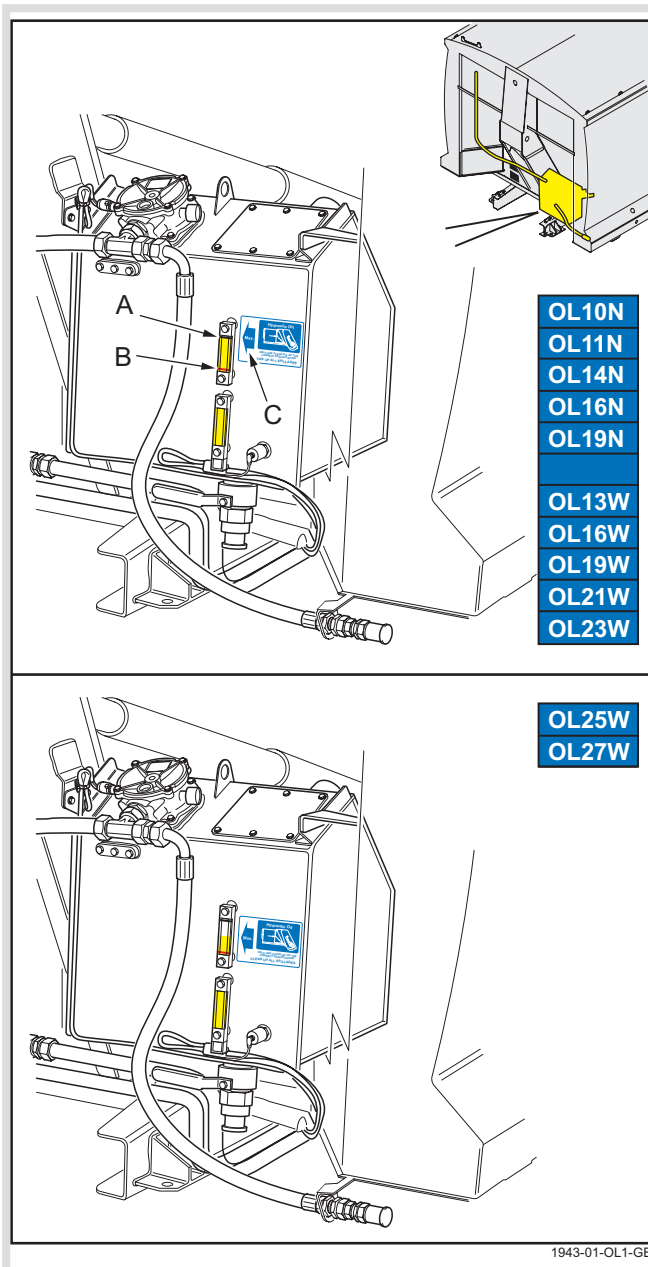

Fig. 4-1 Hydraulic oil level
- The reservoir is fitted with two oil sight glasses. The upper glass is marked with black and red lines to show maximum (see Fig. 4-1, A) and minimum (see Fig. 4-1, B) levels respectively during normal operation.
- When the compaction mechanism packer plate is open and carriage plate is fully lowered and the ejection plate to the rear of the body, the level should align with the point of the arrow (see Fig. 4-1, C) on the label adjacent to the upper glass.